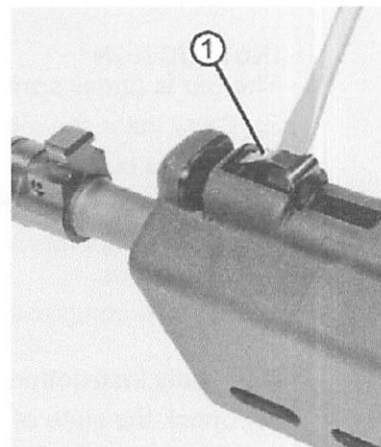

Fig. 68 Replacement of the leaf spring
- ⇒ Press in leaf spring (Fig. 68/1) and remove eyelet forwards.
- ⇒ Pay attention to the assembly position of the leaf spring (Fig. 68).